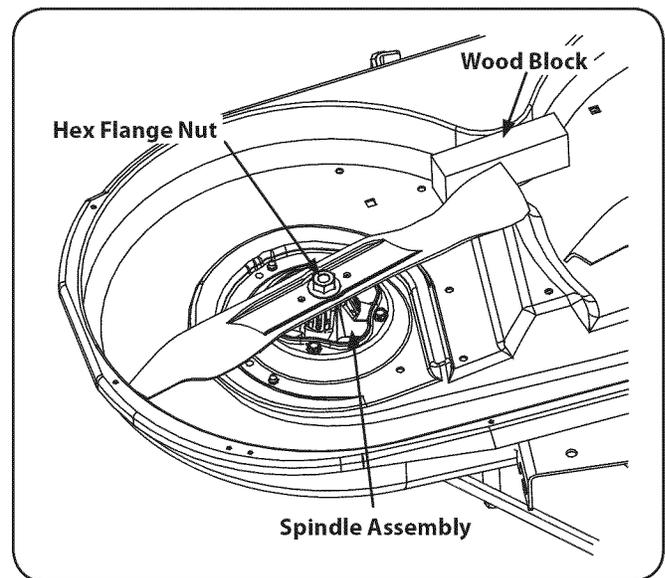

Figure 7-8
2. Use a $1\frac{5}{16}$ ” wrench to hold the hex nut on top of the spindle assembly when loosening the hex nut securing the blade. A block of wood may be placed between the deck housing and the cutting edge of the blade to help in breaking loose the hex nut securing the blade. See Fig. 7-8.